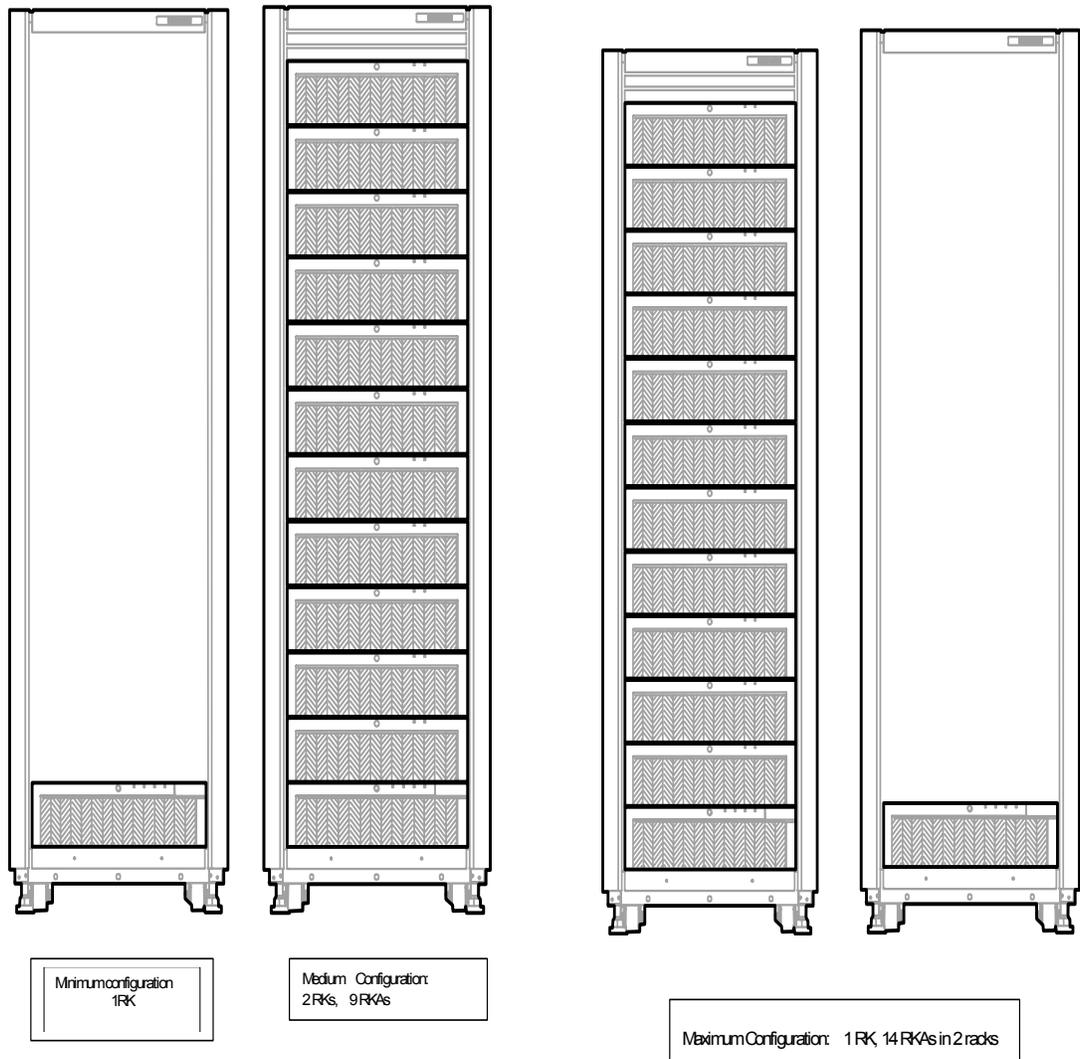

Figure 5.2 Balanced RK-to-RKA Ratio – Suggested Placement of 9500V Components
- **When mounting more than one Thunder 9500V subsystem in a rack, it is important to spread the RK-to-RKA ratio evenly (for example, 1:1 for all combinations, or 1:2 for all combinations, or 1:3 for all combinations, etc.). Avoid a top-heavy installation. Figure 5.2 shows an example of a balanced RK-to-RKA ratio.**